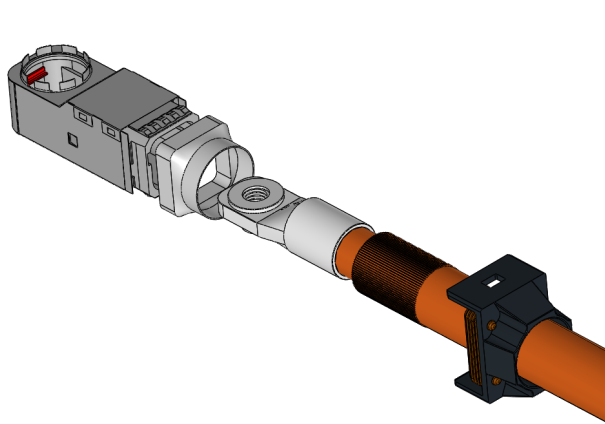

Figure 6.1.1
Step 6: Install the shielding ring and the plug shielding shell assembly to wire (Figure 6.1.1&6.1.2)